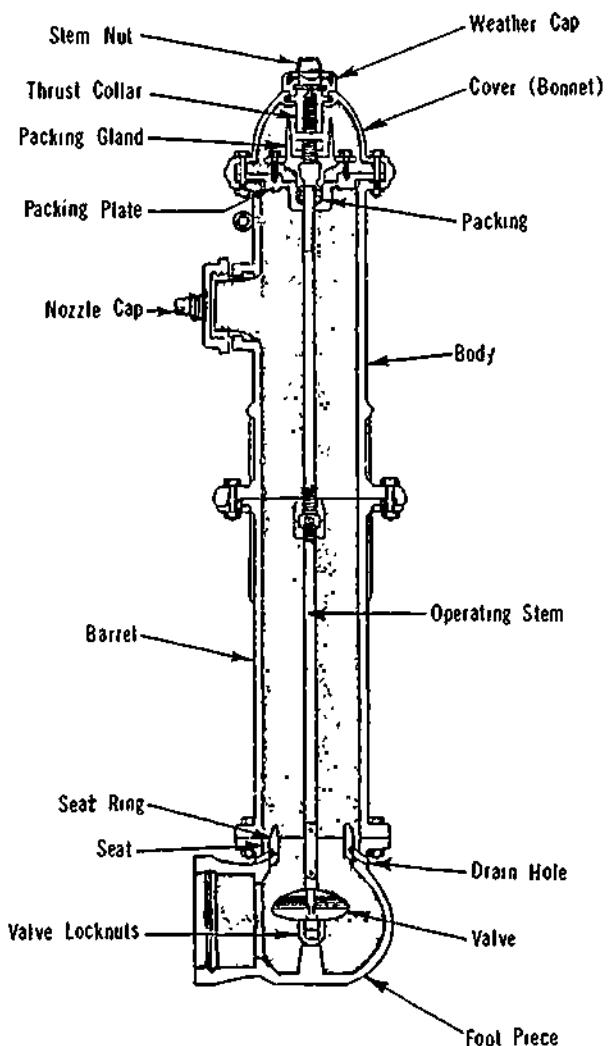
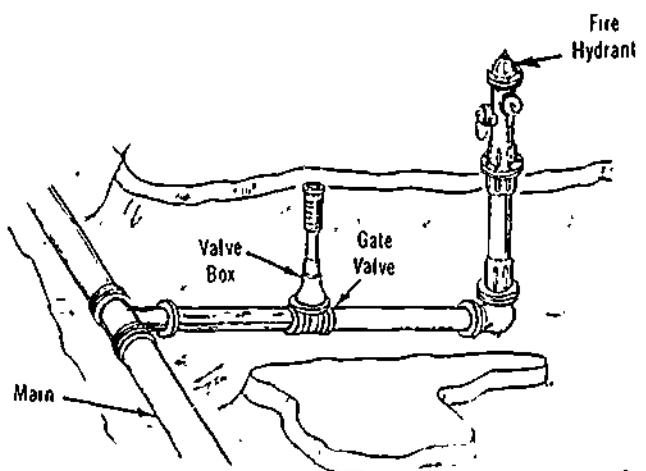

Figure 28-1. Compression-Type (A) Hydrant
Figure 28-5. Typical Hydrant Installation
These types of hydrants and their components are shown in Figures 28-1 to 28-4. Figure 28-5 shows a typical hydrant installation.
g) Figures 28-1 to 28-4 give the pertinent data for various types of hydrants. Similar types made by one or more manufacturers are illustrated in these generalized sketches.
a) To disassemble a compression-type (A) hydrant (Figure 28-1), shut off the water, open the hydrant wide, and unbolt the bonnet. Turn the stem nut in open direction until it disengages the operating stem. Lift off the stem nut and bonnet as a unit. Insert a special socket-key wrench into the barrel over the operating stem until the slots in the bottom of the wrench engage the lugs on the seat ring. Lift out the wrench and hydrant mechanism. Re-assemble in reverse order.